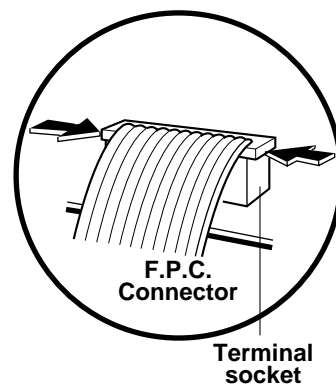

Figure 13
- (3) Lock the level end of the plastic fastener into the hook of the terminal socket securely by releasing the fingers. (Figure 13)